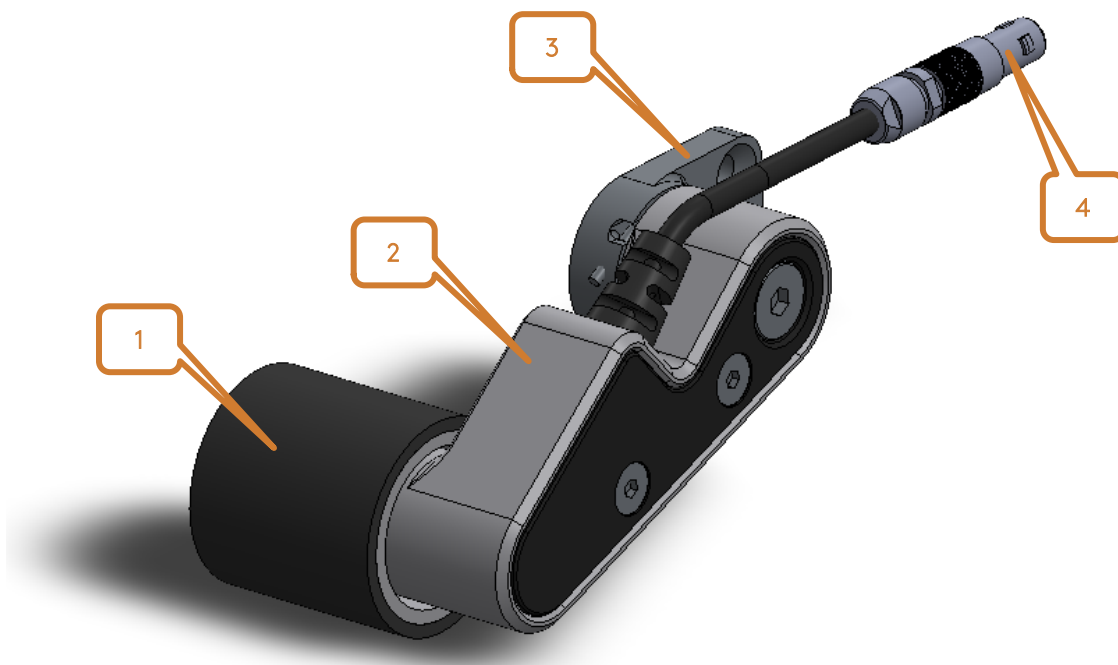

Figure 3: ENC-PS-HD features
To do so, position the encoder's fixation bracket in its slot and fasten using the two Allen screws (1), as shown in Figure 3.